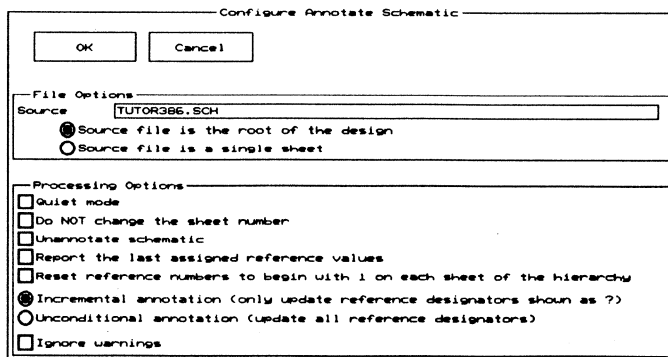

Figure 3-8. The **Configure Annotate Schematic** screen.
1. Select **Annotate Schematic**, then select **Local Configuration** from the menu and select **Configure ANNOTATE**. The **Configure Annotate Schematic** screen displays (figure 3-8).